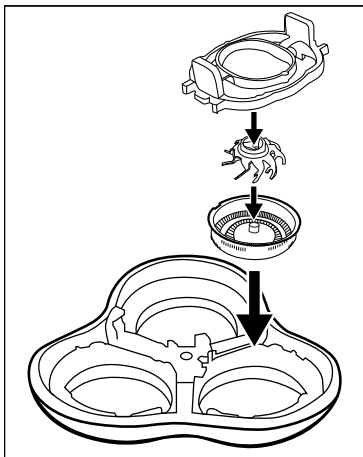

Fig. 4
- 4) Reassemble the cutting unit **2**. Use the following illustrations for guidance (see Fig. 4).